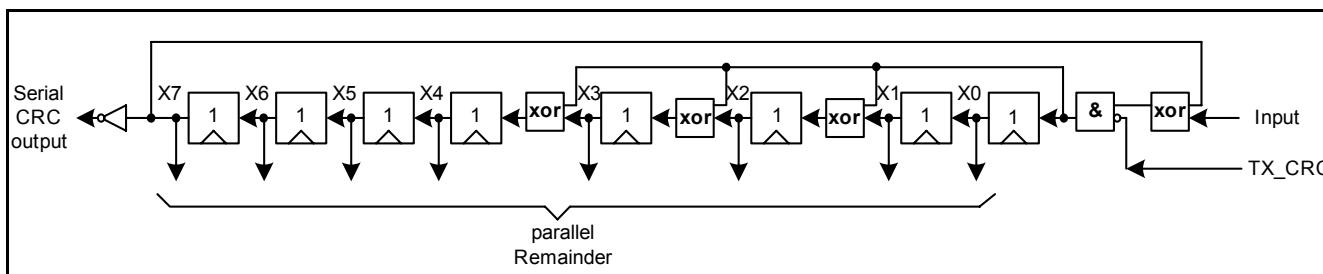

Figure 20 Fast CRC Polynomial Division Circuit
- Generator-Polynomial: $X^8 + X^4 + X^3 + X^2 + 1$, but for the CRC generation the fast-CRC generation circuit is used (see **Figure 20**)